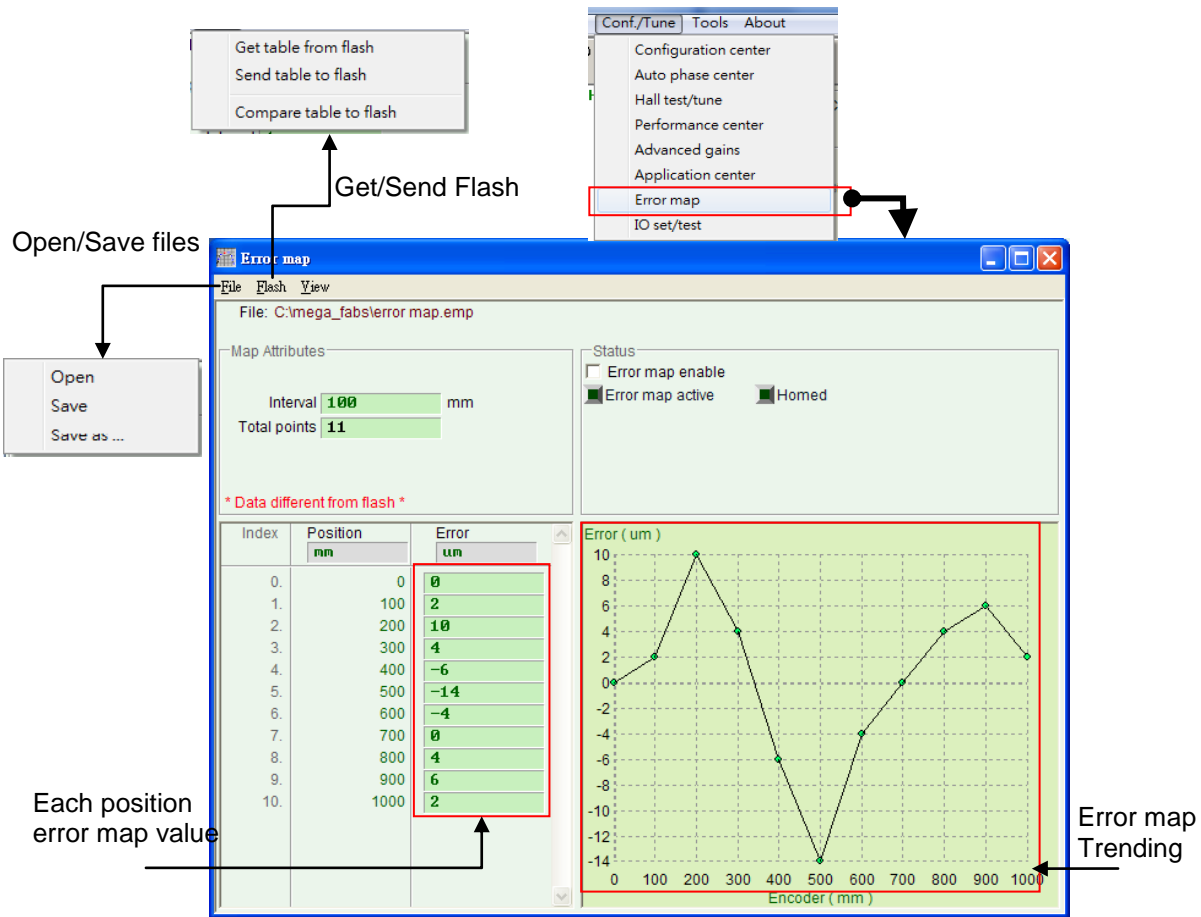

Figure 5-39 Error Map Window
5.8.1.1 Click the  button on the tool bar in main window or select Error map item of pup-up menu of Conf/Tune in the main menu to open the window as showing Figure 5-39.